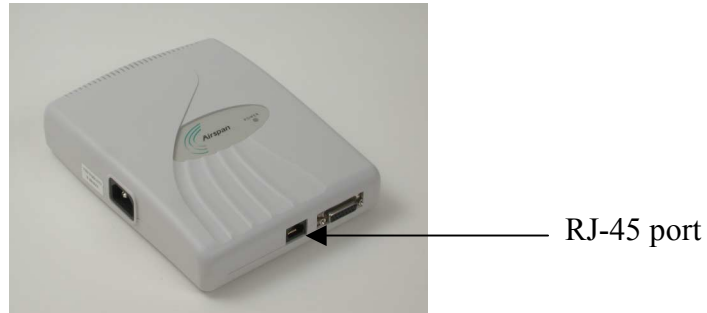

Figure 9-6: SDA-1 with one Ethernet port
- **SDA-1:** one RJ-45 port (see Figure 9-6)